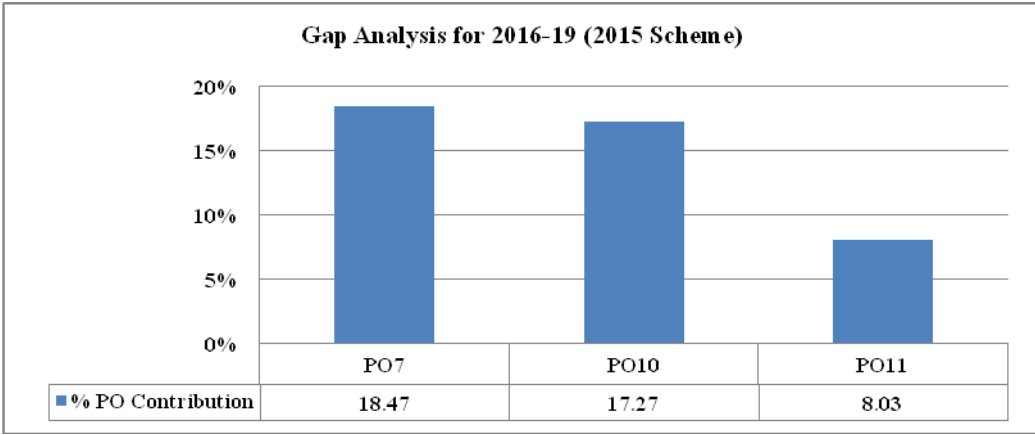

Fig. 2.13: Identified Gap's in Program Outcomes for 2016-19 (2015 Scheme).
Program Assessment Committee (PAC) has identified 20% of 249 number of Course Outcome (CO) contribution to each PO to total number of Course Outcome (CO's) from each curriculum (20% of 249=50 Co's). From the above analysis we have identified Curriculum gap of 2016-19 for 2015 Scheme and the same is represented in Fig. 2.13.